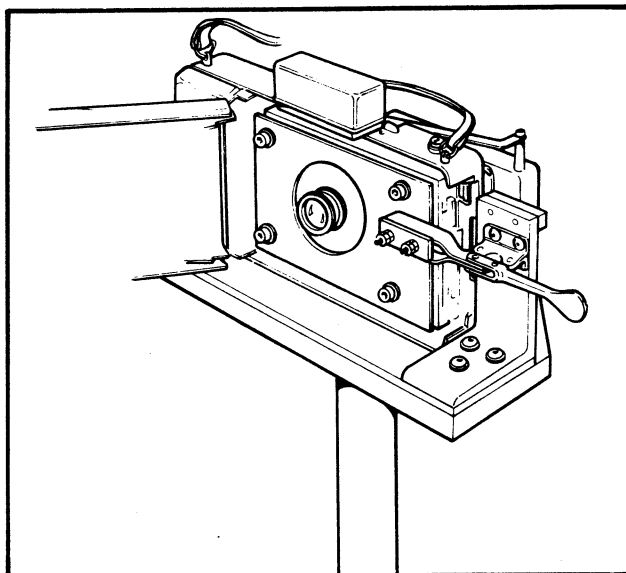

FIG. 3.3 CAMERA MOUNTED ON COLLIMATOR
5. Open the rear door and mount the camera on the Polaroid collimator. Clamp the focal plane plate into position on the camera as shown in Figure 3-3.